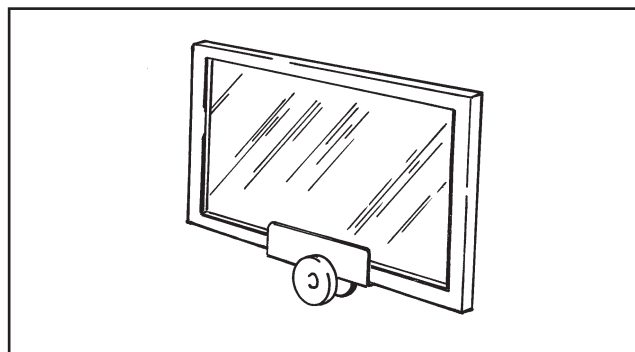

Figure 1.14 Wheelset
- **Hand trucks, trolleys and wheelsets**—carrying aids that take most of the weight of the load (see Figures 1.14 and 1.15).